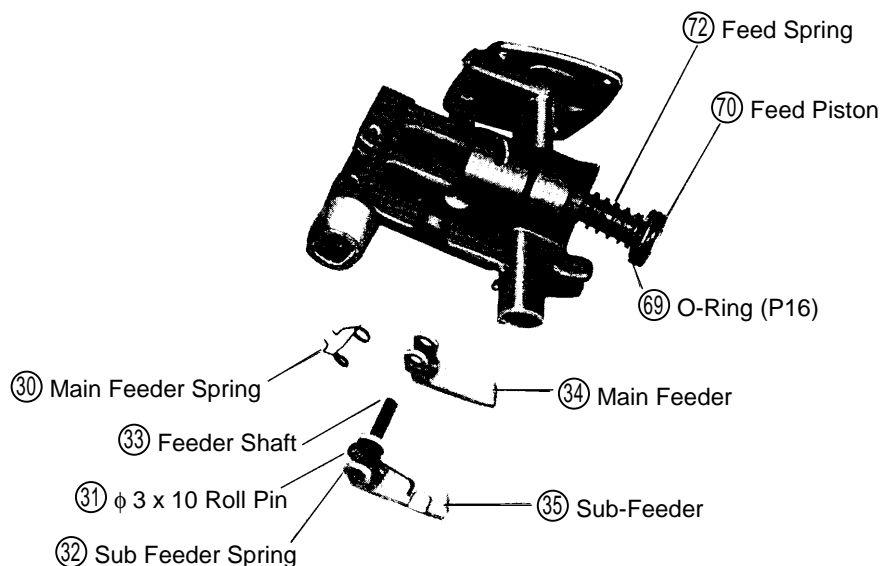

Fig 21 Feed Piston, Main Feeder, and Sub-Feeder Disassembly
- Take out the ϕ 3 x 10 Roll Pin (31) from the Feeder Shaft (33), and disassemble the Feeder Shaft (33), Sub Feeder (35), and Sub Feeder Spring (32). (see Fig. 21)